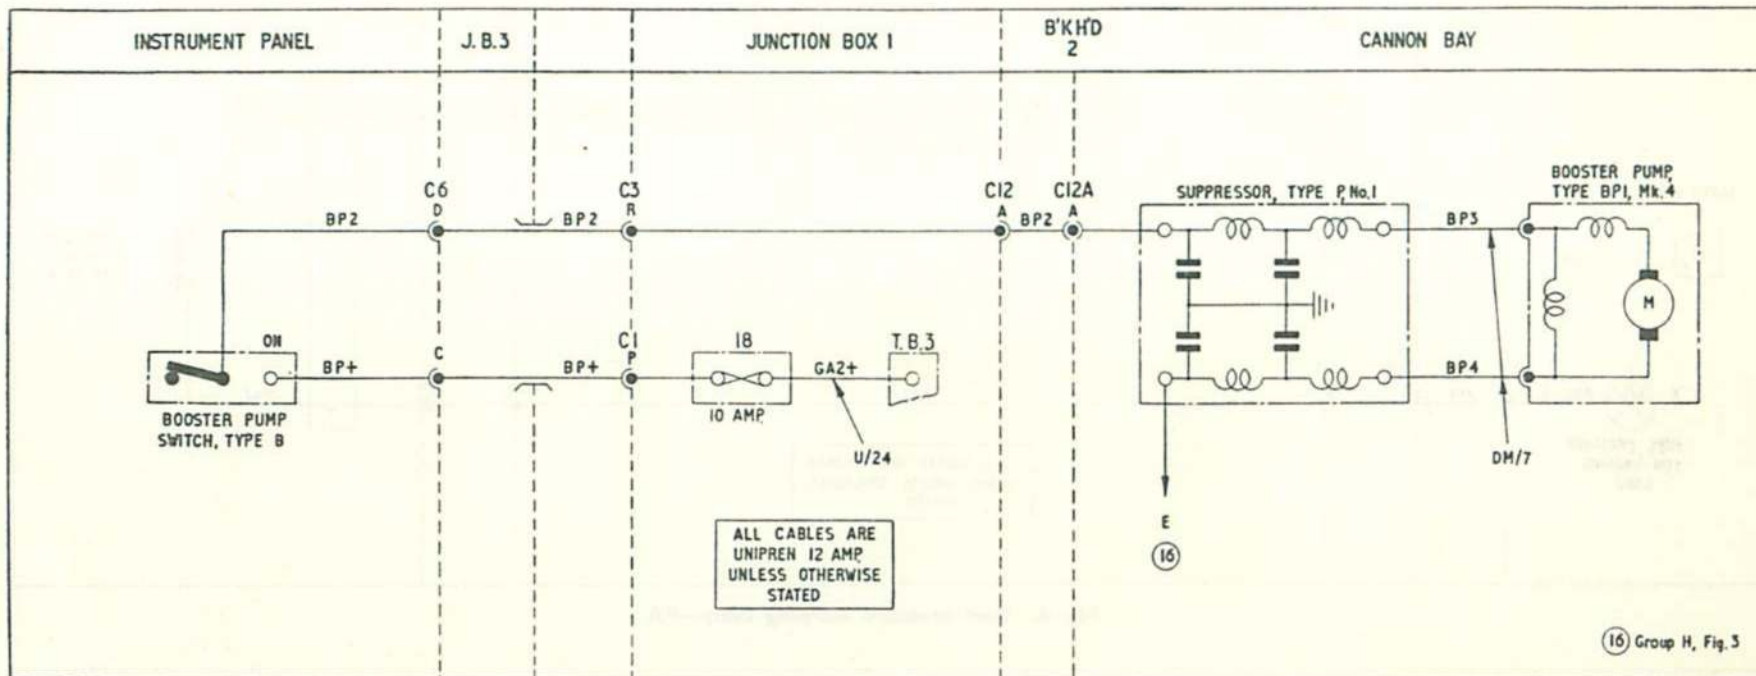

Fig. 3. Fuel booster pump—BP
Fuel booster pump—BP	Fig. 3
13. A fuel booster pump is fitted in the base plate of the fuselage fuel tank. The pump motor is controlled by a single-pole toggle switch fitted to the instrument panel, the switch having a spring-loaded guard. A suppressor is connected in series with the pump motor to eliminate any radio interference set up by operation of the motor, the suppressor being bolted to the cannon bay roof. The circuit is shown in fig. 3.